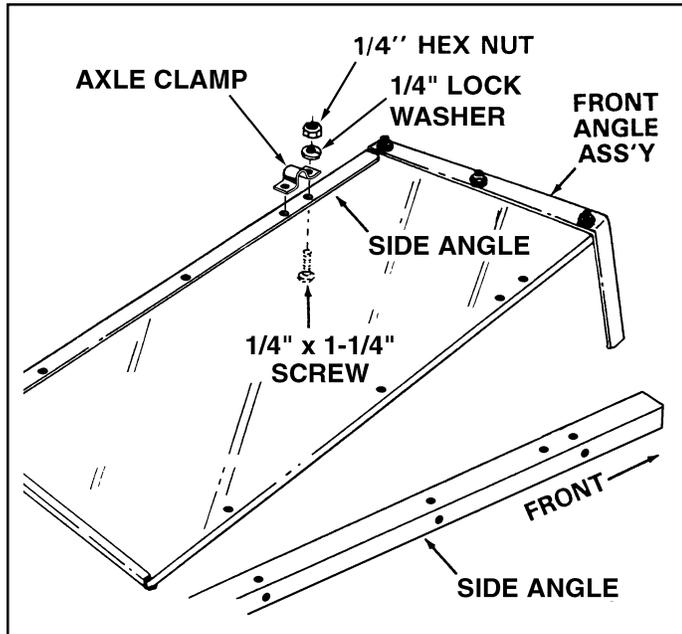

FIGURE 3
- Turn the front angle assembly and bottom panel upside down as shown in figure 3.
- Lay the two side angles on the bottom panel so that the two holes for the axle clamps are closer to the front angle assembly. See figure 3.
- Secure both axle clamps to the side angles and the bottom panel using four 1/4" x 1-1/4" screws, lock washers and hex nuts. **Make only finger tight** until axle is assembled. See figure 3.